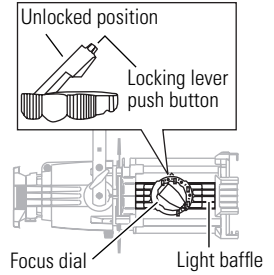

Figure 3
1. Press the locking lever push button and lift the locking lever to unlock the focus dial. See **Figure 3**.